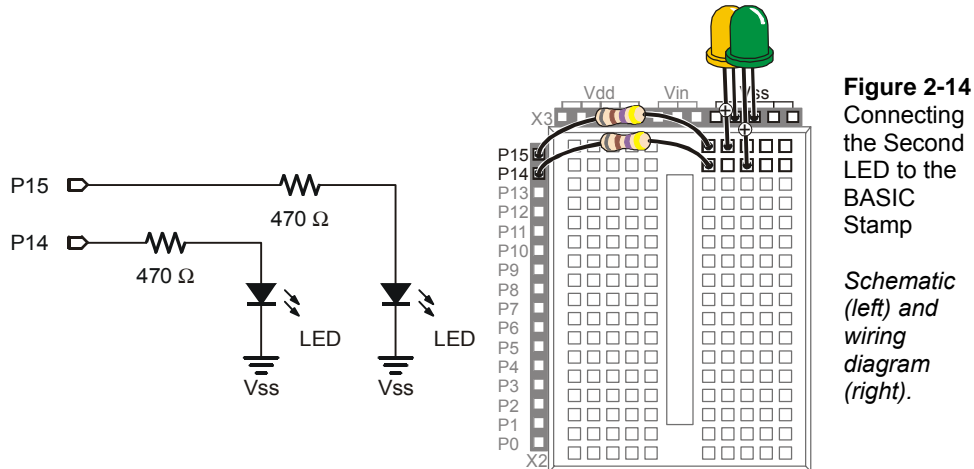

Figure 2-14
- √ Modify the second LED circuit you just tested by connecting the LED circuit's resistor lead (input) to P15 as shown in Figure 2-14.